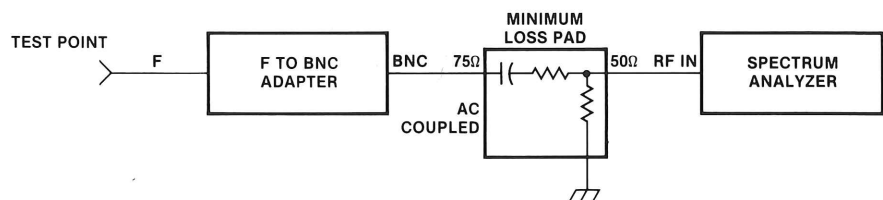

Figure 1-1. Equipment connection for amplitude measurements.
4. Connect the subscriber tap to an F to BNC adapter. Connect the adapter to the Minimum Loss Pad and then to the spectrum analyzer's RF IN connector. See figure 1-1.